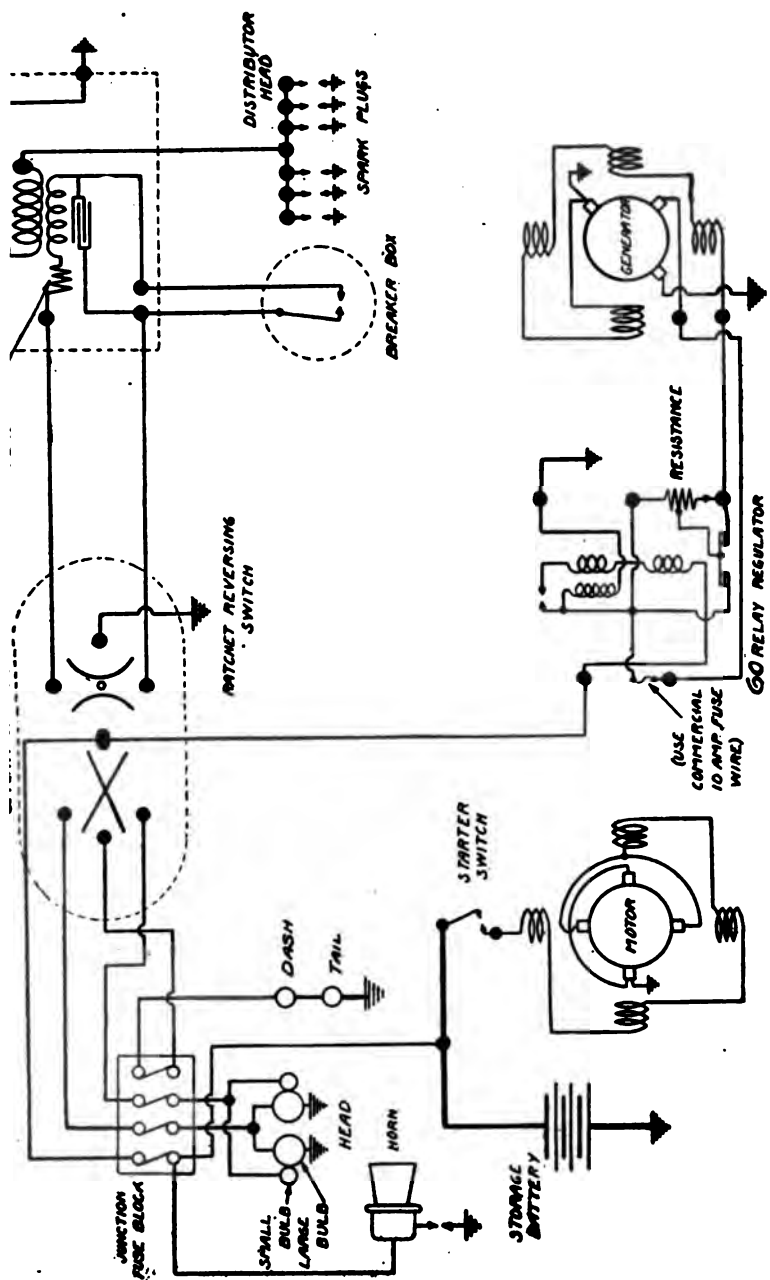

Fig. 316. Wiring Diagram for Remy Installation on the Velie, Model 22
**Wiring Diagrams.** *Velie.* Fig. 316 shows the installation on Velie, Model 22, and the details will be plain with further explanation. The "ratchet reversing switch", shown in the diagram, is for controlling the ignition current, and it is designed to reverse the direction of this current each time the switch is turned on in order to prevent the formation of a crater and cone on the ignition interrupter contacts, as previously described, thus keeping the points in good work-